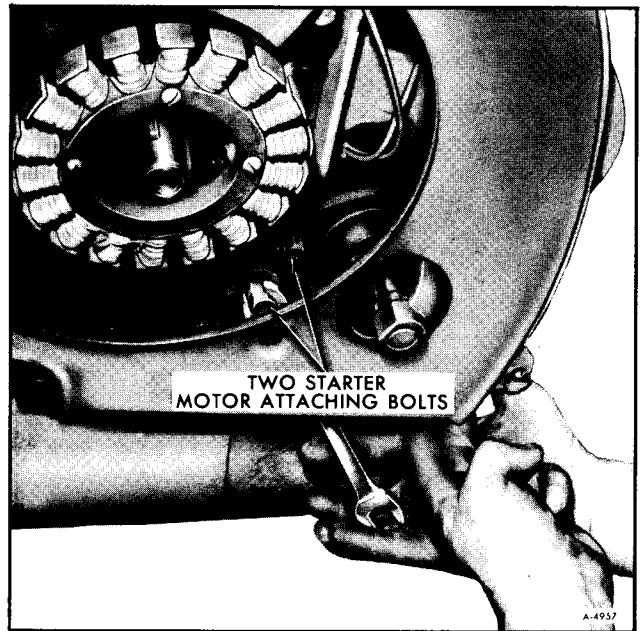

Figure 54—Removing Starter Motor Attaching Bolts
11. Remove the two starter motor attaching bolts (See figure 54).